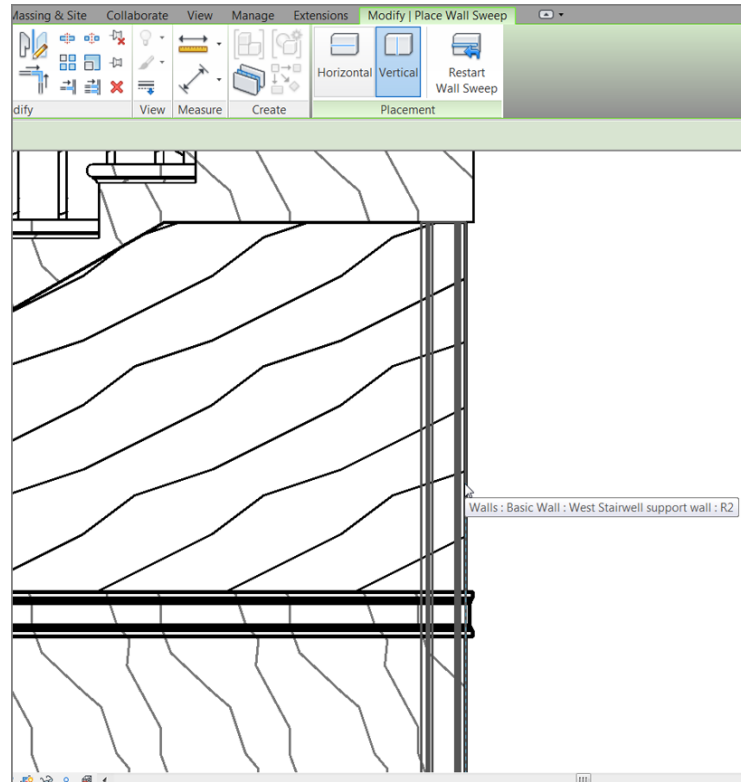

FIGURE 16.17: Adding the profile to the wall
9. On the Modify | Place Wall Sweep tab, click Vertical on the Placement panel (see Figure 16.17).